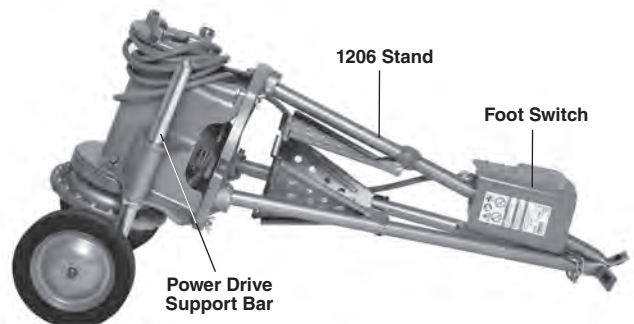

Figure 29 – Machine Prepared for Transport with No. 32 Transporter
- Coil up the power cord and slide foot switch cover over one leg as shown in *Figure 29*.